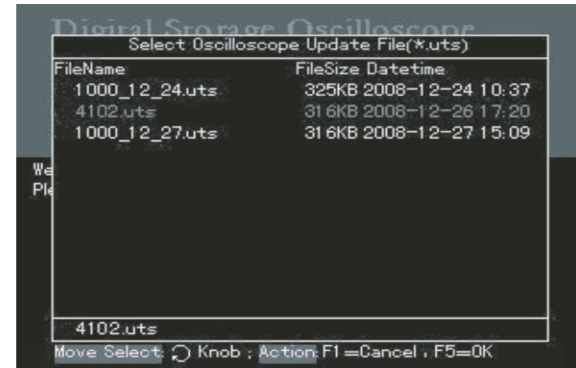

Figure 3-9 Selection of the USB upgrade document
- When [F5] is pressed as shown in Figure 3-9, the prompt on the right will appear: "Are you sure you wish to update? If yes, press [F5], otherwise press [F1] to cancel upgrade".